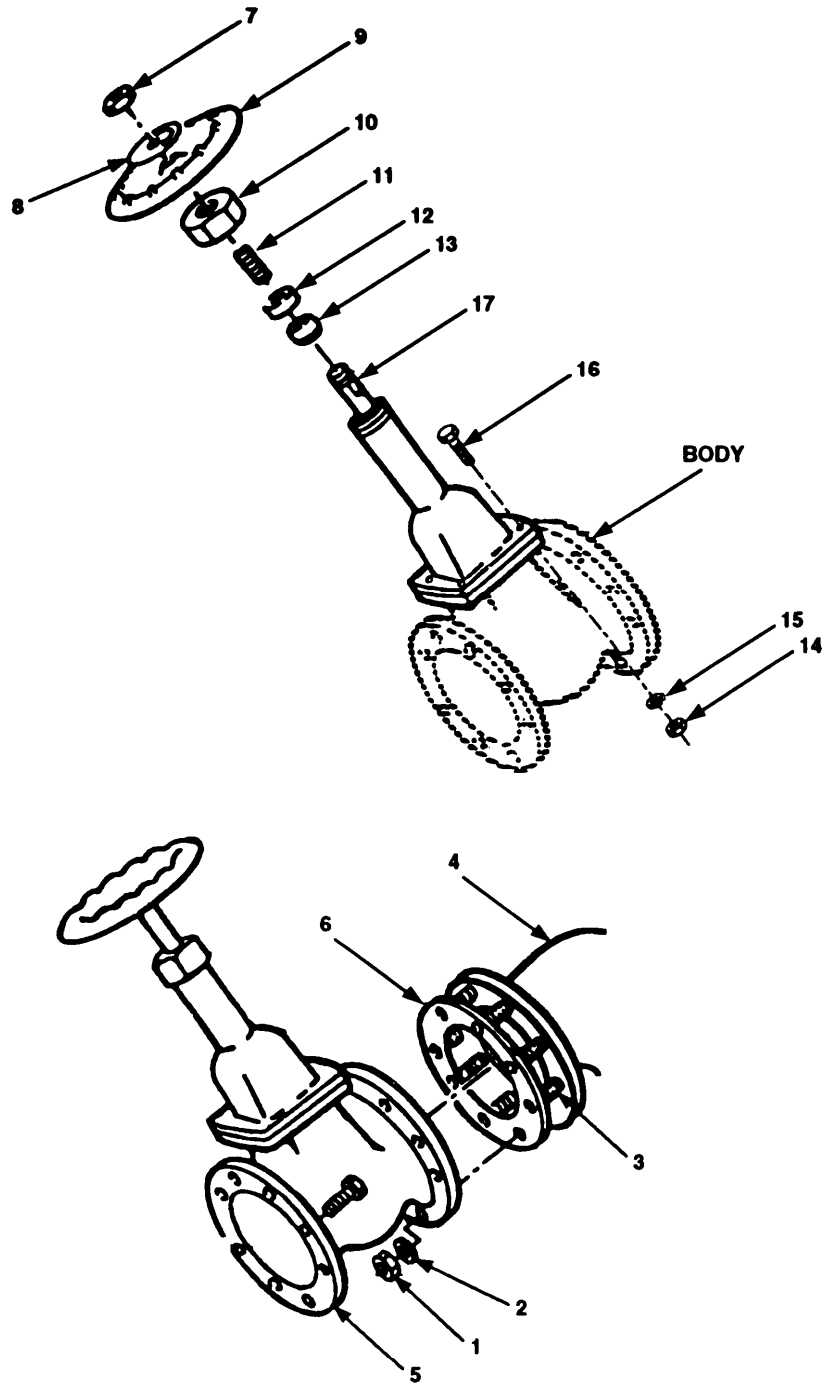

Figure 4-61. Gate Valve Maintenance.
- a. Remove eight nuts (figure 4-61, 1) and eight lockwashers (2) from studs (3) on manifold (4) .
- b. Remove gate valve (5).
- c. Remove and discard gasket (6).